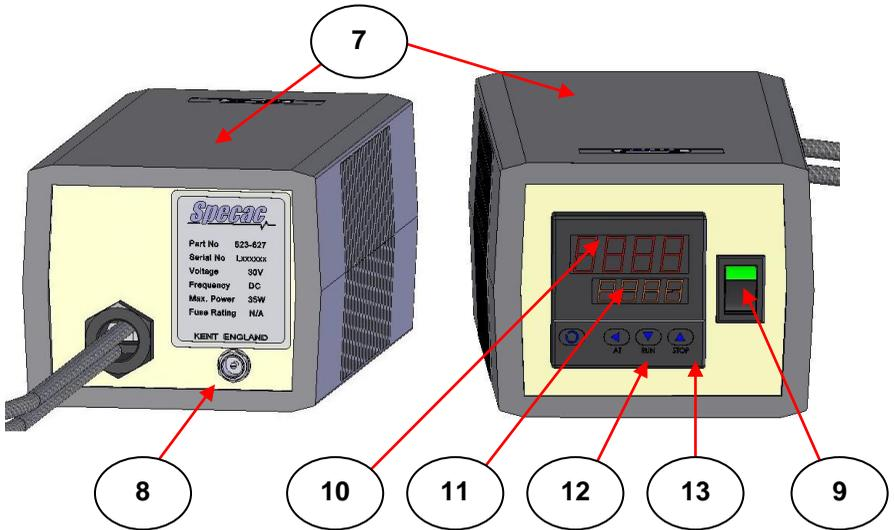

Fig 4. Rear and Front Views of Mini-Film Maker Controller
Fig 4. shows the rear and front panel details of the controller (7). For the rear panel details the socket connection (8) is where the power connection cable is placed from the 30V power supply pack supplied. (See checklist of contents). Three different mains power supply cable leads have been provided to connect the power supply pack to a mains supply. Choose the appropriate power cable for your mains supply wall socket and connect the mains cable lead to the three-pin connection socket on the 30V power supply pack.